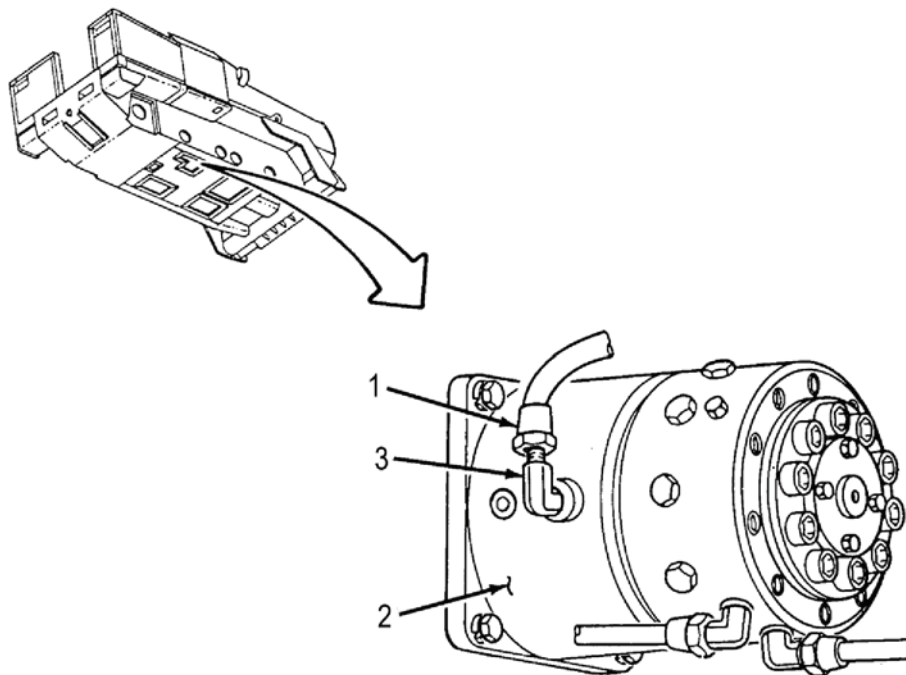

Figure 19. Main Pump Suction Hose Blockage Test
- Loosen, but do not disconnect, PUMP SUCT TUB-7 (Figure 19, item 1) from elbow (Figure 19, item 3) on main hydraulic pump (Figure 19, item 2). Hydraulic oil should flow freely from the loosened fitting. Reconnect line.